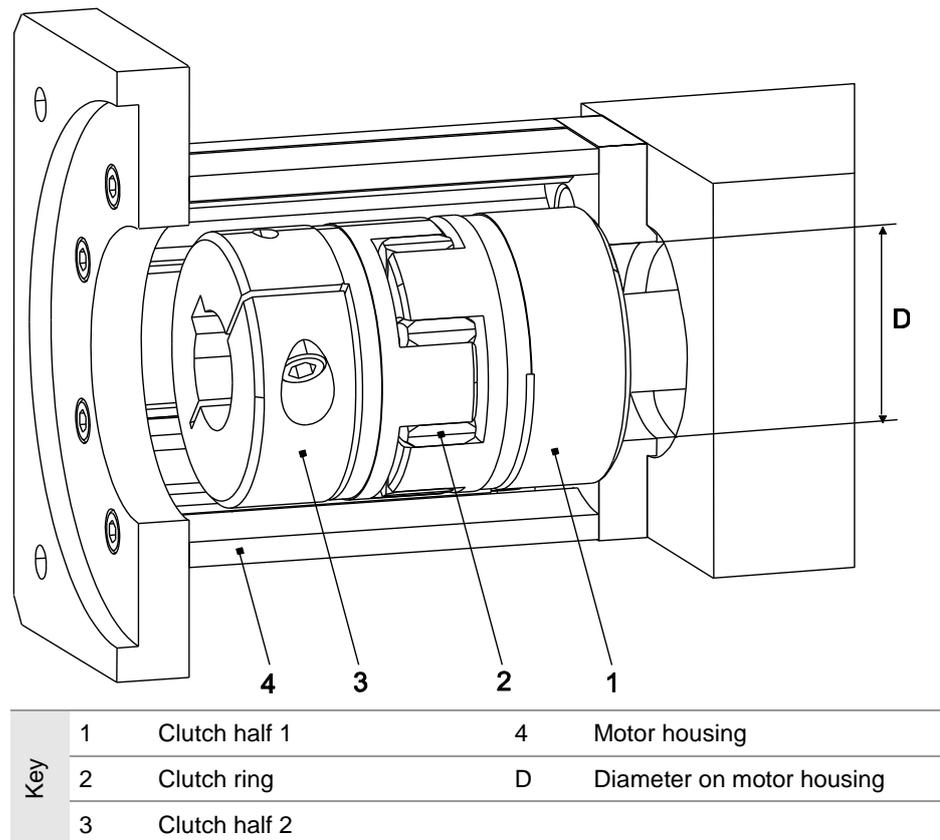

Figure 7 Motor housing with motor clutch on drive pin
3. If the clutch diameter is less than the measure D on the motor housing (4), first mount clutch half 1 (1) (hole flush with drive shaft) and then the motor housing (4) (figure 7).